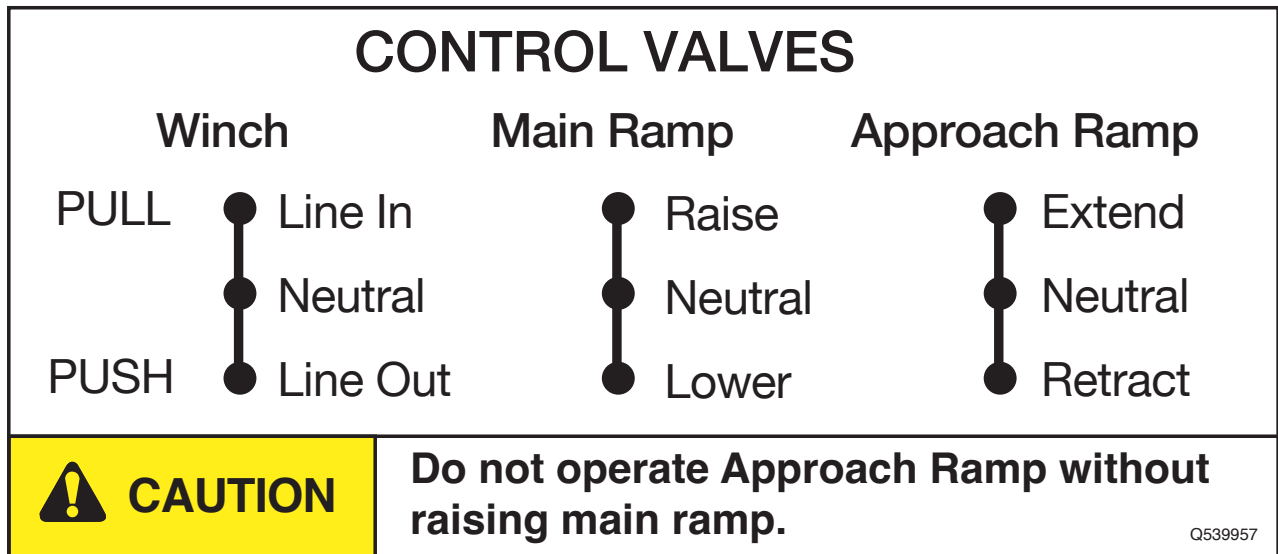

FIGURE 1-7. OPERATION DECAL - MODEL SR TRAILER - WITH MAIN AND APPROACH RAMPS AND OPTIONAL HYDRAULIC WINCH SYSTEM.
1. Put the hydraulic winch control valve handle in the "NEUTRAL" position (SEE FIGURE 1-7). Go to the WINCH ASSEMBLY and MOVE the spool disengagement handle to the DISENGAGE position. PULL the cable TO the equipment to be loaded onto the trailer. SECURELY fasten the winch cable to the equipment being loaded onto the trailer.
4. Go to the **WINCH ASSEMBLY** and **MOVE** the spool disengagement handle to the **ENGAGE** position. **SLOWLY PULL** the **WINCH** system control valve handle to the **LINE IN** position and engage the winch drive (SEE FIGURE 1-7).
5. KEEP the WINCH system control valve handle at the LINE IN position [SEE FIGURE 1-7]. CAREFULLY and SLOWLY move the equipment into the desired position on the trailer deck. Move the WINCH system control valve handle to the NEUTRAL position [SEE FIGURE 1-7].
7. PUSH the WINCH system control valve handle to the LINE OUT position and release the tension on the winch cable [SEE FIGURE 1-7]. Move the WINCH system control valve handle to the NEUTRAL position and remove the cable from the equipment. PUSH the WINCH system control valve handle to the LINE IN position and wind the winch cable onto the drum. Move the WINCH system control valve handle to the NEUTRAL position.
**When NOT operating the winch system, ALWAYS leave the WINCH system control valve handle in the NEUTRAL position [SEE FIGURE 1-7].**